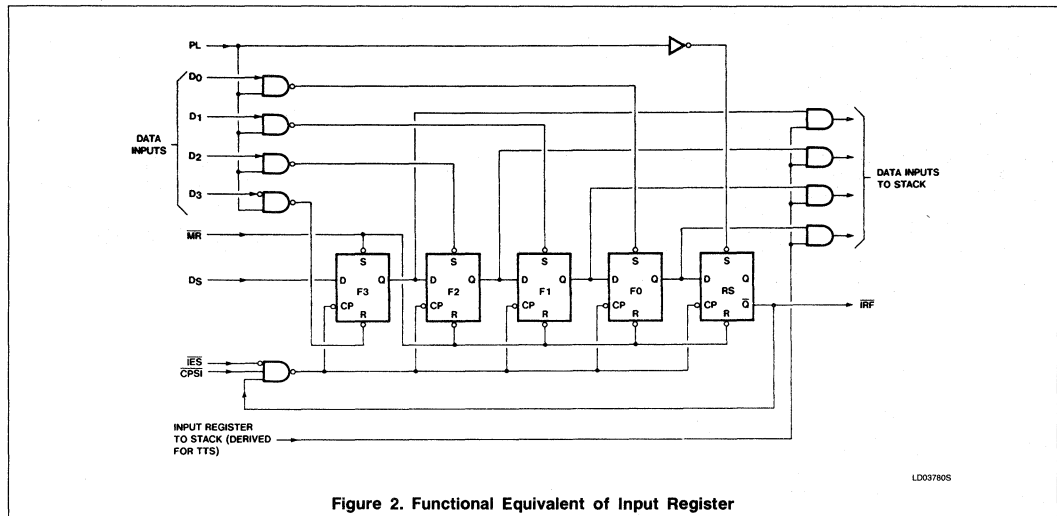

Figure 2. Functional Equivalent of Input Register
When PL is high and  $\overline{CP\bar{S}I}$  is low (Figure 2), flip-flops F0 – F3 are loaded with data and  $\overline{IRF}$  is forced low. This condition remains until current data is transferred to the stack. Once the data is transferred,  $\overline{IRF}$  is driven high and new data can again be clocked into the input flip-flops. If parallel expansion is not being implemented,  $\overline{IES}$  must be low to establish row mastership — refer to discussion of parallel expansion.
As shown in Figure 2, the outputs of F0 – F3 are applied to the stack under control of a signal derived from TTS. When TTS is low, an attempt to initiate a fall-through action is made. If the top location of stack is empty, data is loaded and the input register is reinitialized provided PL is low. Note that initialization is postponed until PL is again low. Thus, automatic FIFO action is achieved by connecting the TTS input to the  $\overline{IRF}$  output.
The RS flip-flop (Figure 2) records the fact that data has been transferred to the stack; this flip-flop is not cleared until PL goes low. Therefore, if a particular data word is transferred to the stack and falls to the second location before PL goes low, the same word will not be re-transferred even though  $\overline{IRF}$  and TTS are still low. Once data enters the stack, "fall-through" is automatic; a delay is
Data can be entered serially or, using the parallel mode of operation, data is entered in 4-bit increments. In either case, the data is subsequently transferred to the fall-through stack; the functional equivalent of this register is shown in Figure 2. The Input Register Full ( $\overline{IRF}$ ) status signal is internally generated by the Register Status (RS) flip-flop; when initialized, the  $\overline{Q}$  ( $\overline{IRF}$ ) output of this flip-flop is high.